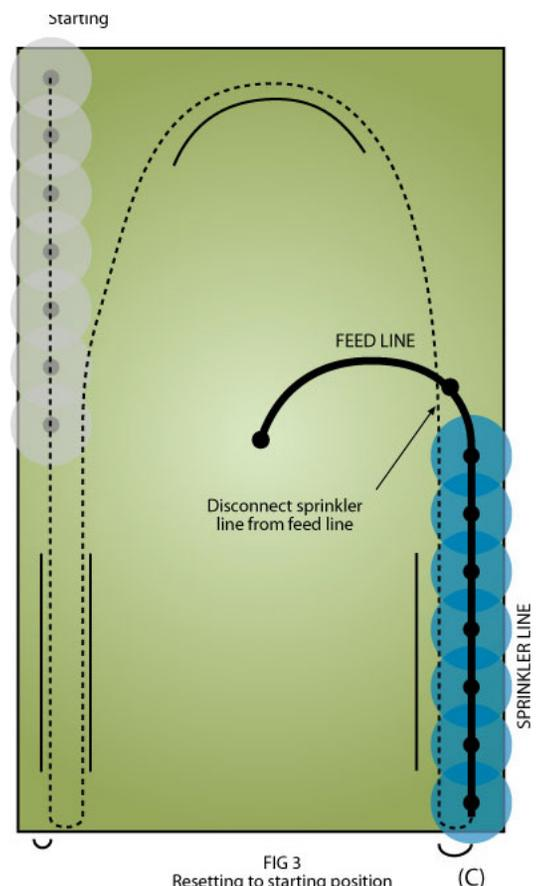

FIG 3
The feed lines (FIG 3) connect to the isolation valve at the riser, and are customised depending on the size and shape of the paddock. The sprinkler lines are also customised for the paddock, using 32mm, 40mm or 45mm special K-Pipe™. The K-Line™ pods are then fitted.
When the field has been irrigated completely (point (C)), disconnect the sprinkler line from the feed line, tow the sprinkler line back to the starting position (FIG 3), reposition feed line, connect to the sprinkler line and you're ready to start the irrigation rotation again.